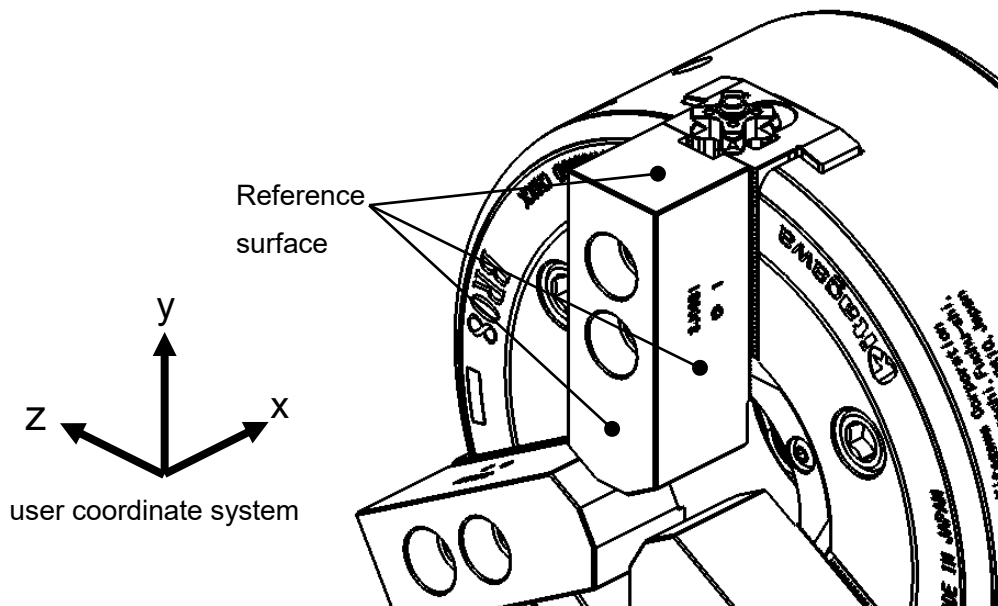
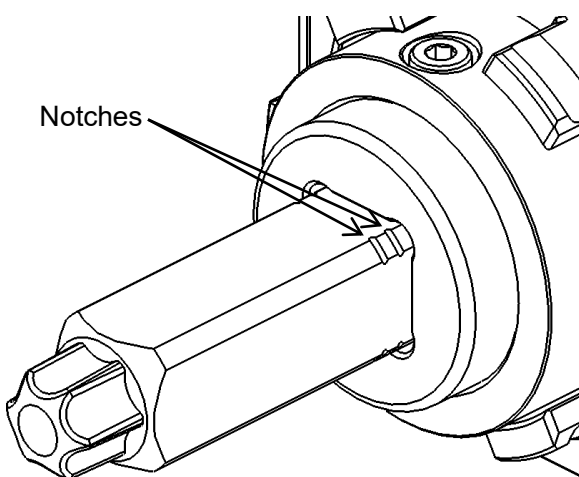
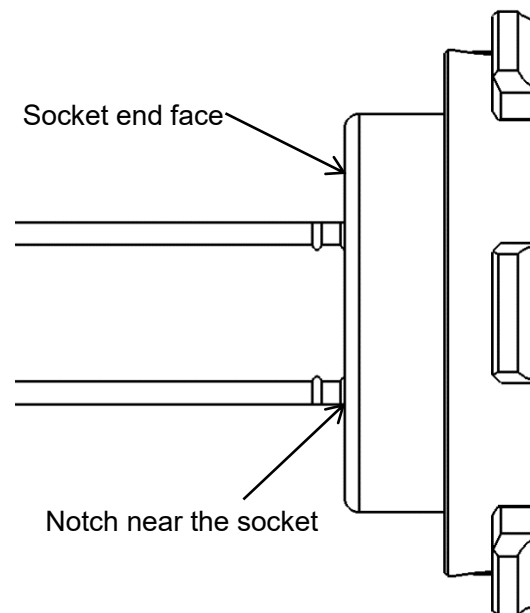

Figure 26
Figure 30
Figure 31
- ① Mount a jaw to the chuck and index it to the jaw change position.
- ② Create user coordinates using the reference surface of the jaw shown in Figure 26.
- ④ Move the BR-AJC end effector to the position where the notch closer to the socket, the one of the two notches on the socket (Figure 30) , is aligned with the socket end face (Figure 31).
- ⑤ Now teaching of the bolt tightening/loosening position is completed. Store the current position using functions such as the position register of the robot controller.
- For the bolt tightening/loosening position of the other jaw mounting bolt, perform teaching by offsetting the robot in the X-axis direction of Figure 26 (refer to 5.3.1. Creating User Coordinates) by the distance of the jaw mounting bolt, or using steps ② through ⑤.